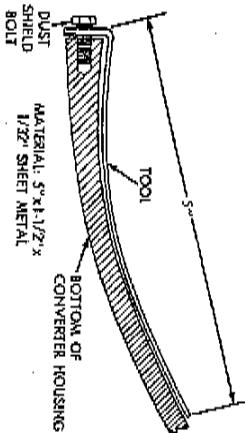

Fig. 4—Leak Locating Test Probe Tool
(1) Remove torque converter housing dust shield.
(2) Clean the inside of torque converter housing (lower area) as dry as possible. A solvent spray followed by compressed air drying is preferable.
(3) Fabricate and fasten test probe (FIG. 4) securely to convenient dust shield bolt hole. Make certain torque converter is cleared by test probe. Tool must be clean and dry.
(4) Run engine at approximately 2,500 rpm with transaxle in neutral, for about 2 minutes. Transaxle must be at operating temperature.
(5) Stop engine and carefully remove tool.